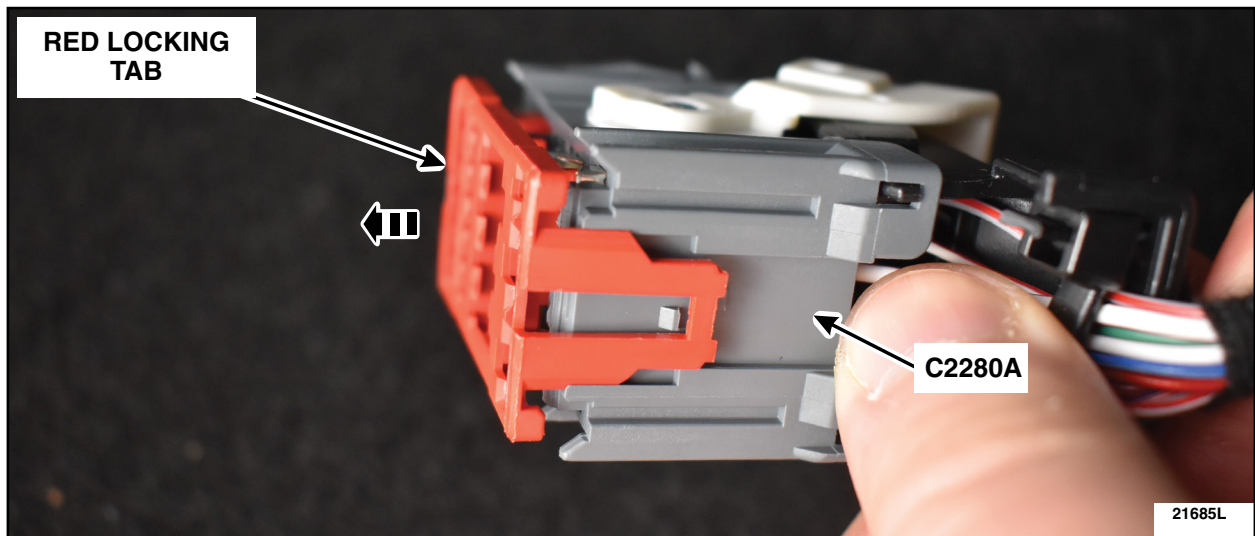

FIGURE 11
15. Remove the red locking tab of C2280A. See Figure 11.